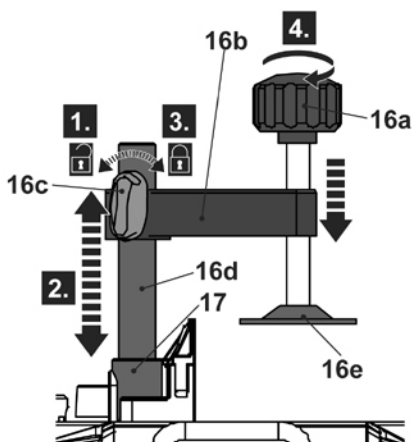

Fig. 7
- > Loosen the locking knob (16c) (Fig. 7, step 1) on the height adjustment pillar (16d) and adjust the bracket (16b) to the required height (step 2). Tighten the locking knob to secure the bracket (step 3).